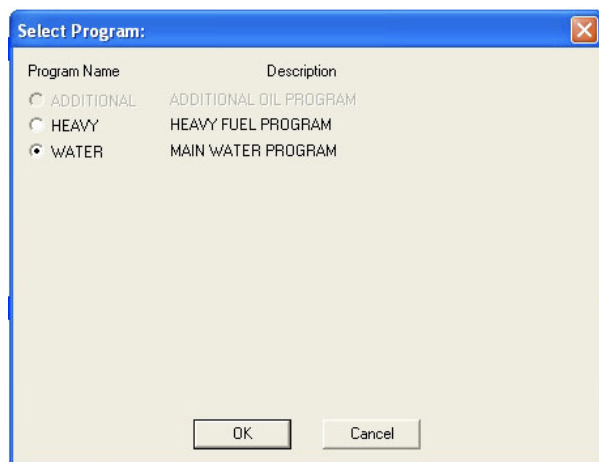

Figure 2-24, Select Program Screen
1. To load the WATER program, select **File** from the pull down menu options, then **Open**. A list of available programs will be displayed, Figure 2-24. Select the radio button for the WATER (MAIN WATER PROGRAM) and press **OK**. The program is now loaded and ready for the standardization procedure.